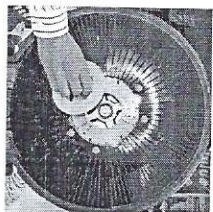

Fig 1
- To remove the pad-lock pad holder from the flexible pad driver, grasp the center support with your thumb and forefinger and turn the collar counter-clockwise. (Fig 1).